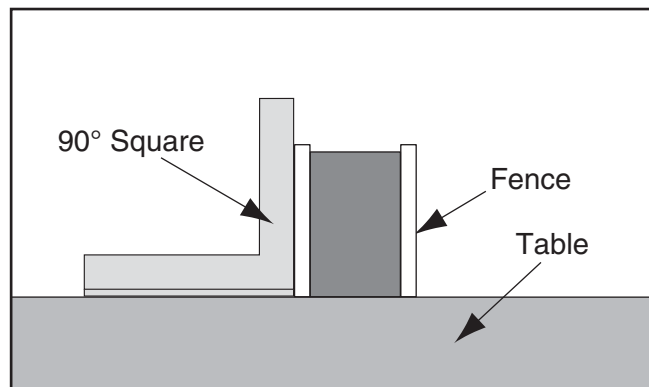

Figure 85. Checking if fence is square to table.
2. Place a square on the table against the face of the fence (**Figure 85**) to check if the fence is square to the table.